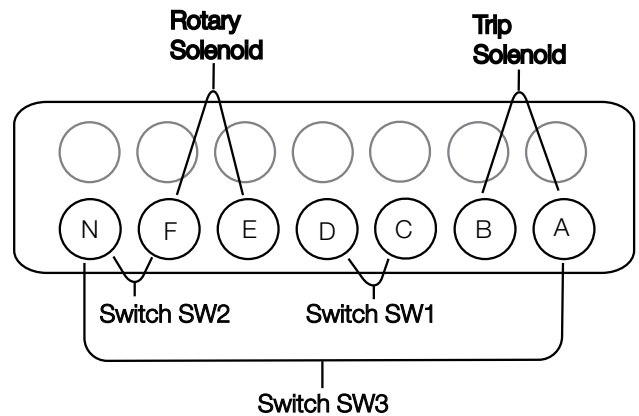

Figure 25. Terminal block connections.
3. Route SW1 and SW3 cables to terminal block (Figure 25).